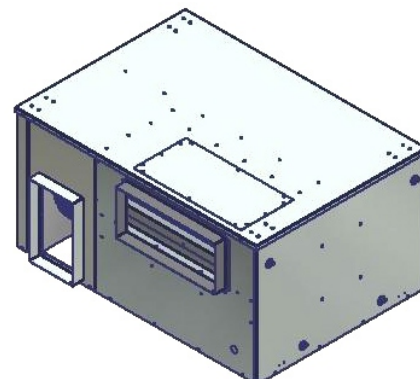

Figure 1
- 1 - Mini Ventilator Assembly (See Figure 1)